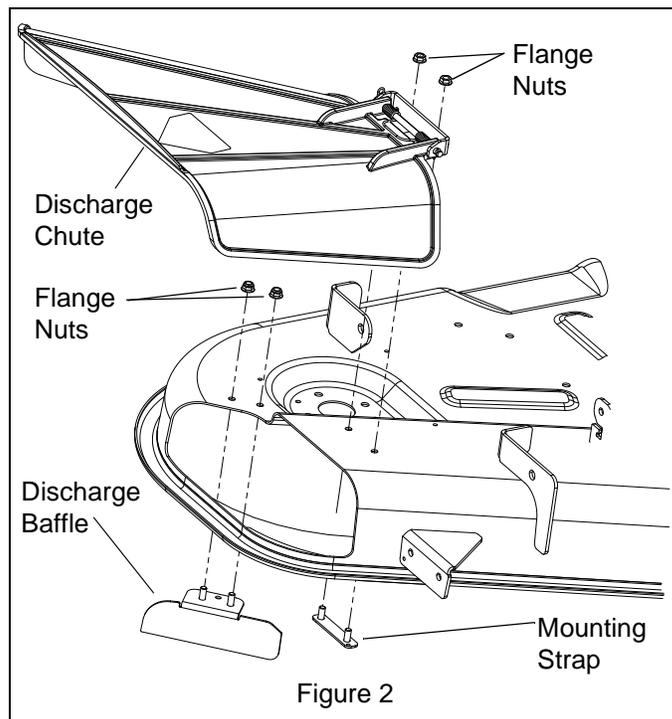

Figure 2
4. Remove two locking top flange nuts from discharge chute mount and remove discharge chute and mounting strap. Retain discharge chute and all hardware for future use with discharge chute or bagger. See Figure 2.
5. Remove two locking top flange nuts from discharge baffle and remove baffle. Retain discharge baffle and hardware for future use with discharge chute or bagger. See Figure 2.